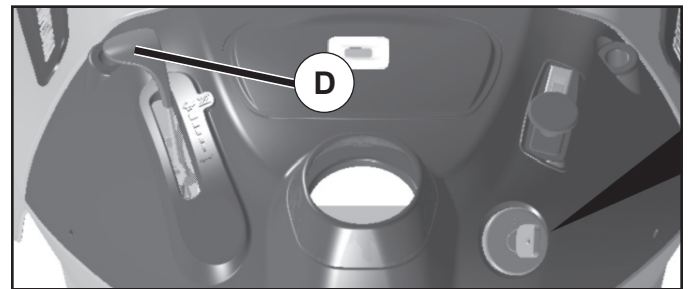

FIG. 9
TO USE THROTTLE CONTROL (D) (See Fig. 9)